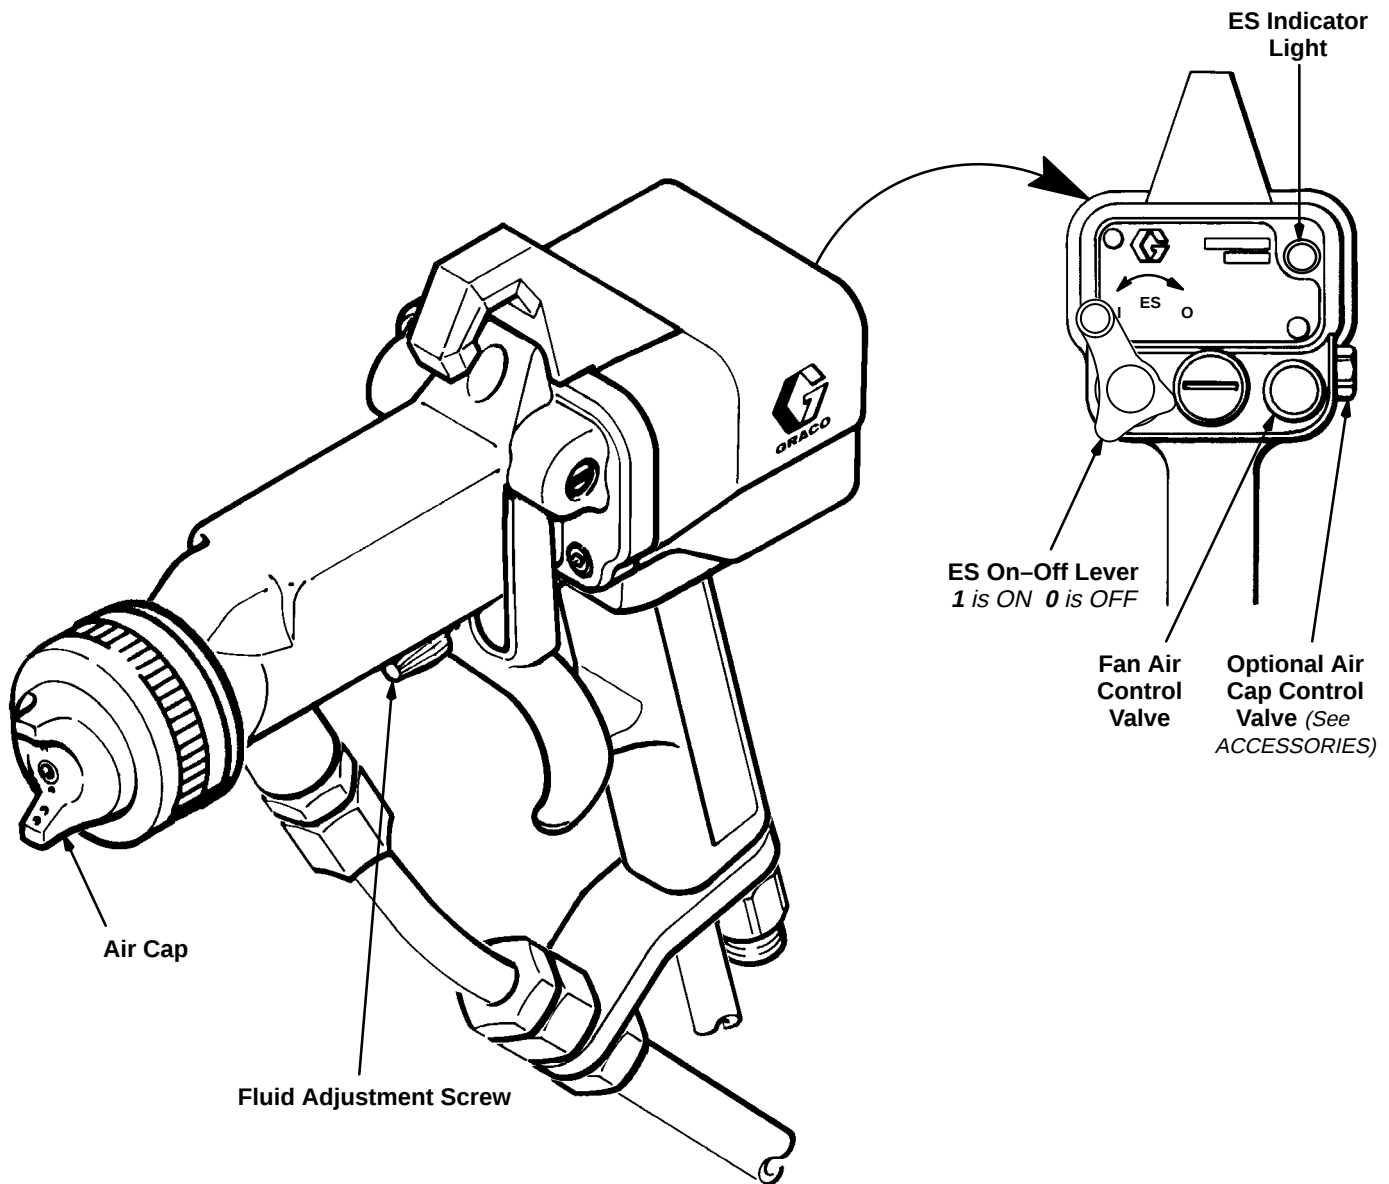

Fig 11
1. Turn the gun ES On–Off Valve Lever to OFF (O). See Fig 11, page 14, for the location of the ES On–Off lever.
1. Turn the spray gun ES On-Off valve lever to **OFF (0)**. See Fig 11, page 14.
2. **Be sure the spray gun ES On-Off Lever is OFF (0).** See Fig 11.
2. First, complete all the checks under the **Operating Checklist** on page 12. Then turn the ES On-Off lever to ON (1). When spraying, the *ES indicator light* should glow, indicating the electrostatic charge.
5. If the flow to the air cap is still excessive after lowering the inlet pressure below 40 psi, the optional *air cap control valve* (see Fig 11) can be installed and used to limit air to the air cap. See **ACCESSORIES**.